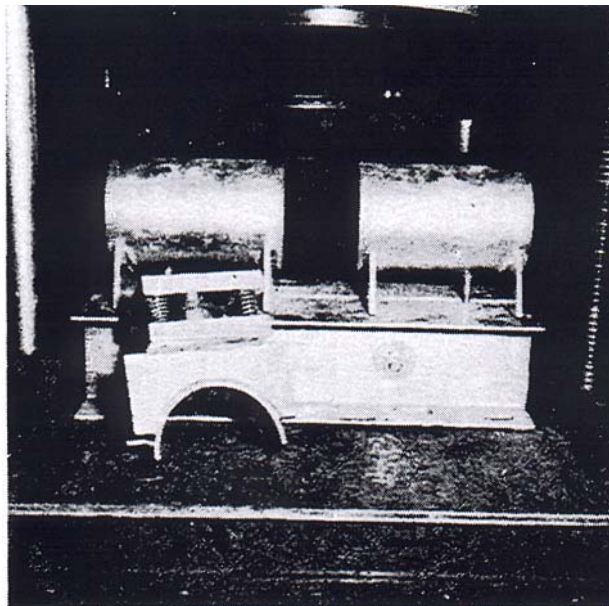

FIGURE 1. Special Holding Fixture
2. Use the special double shear-testing fixture as shown in Figure 1.